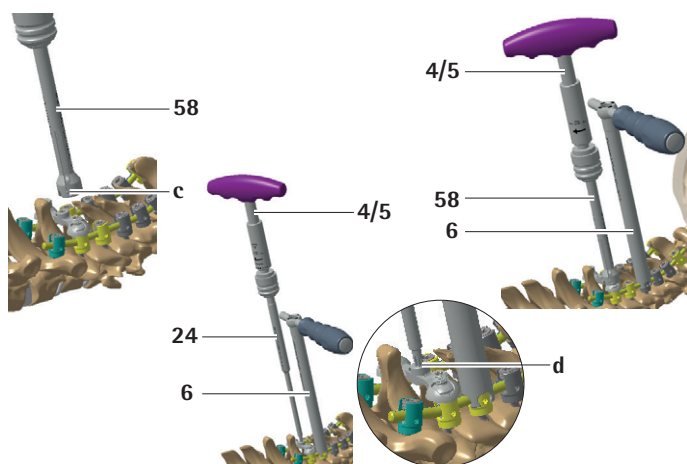

Fig. 48
The counter torque handle does not fit on the connector. Attach counter torque handle **6** (SZ008R) next to the cross connector, as shown at the center of the image, see Fig. 48.
– Finally tighten the locking nuts **c** using the locking driver for head-to-head cross connectors SZ089R and a torque limiting handle **4/5** (SZ005R/SZ006R) together with the counter torque handle **6** (SZ008R), as shown on the right side of the image, see Fig. 48.